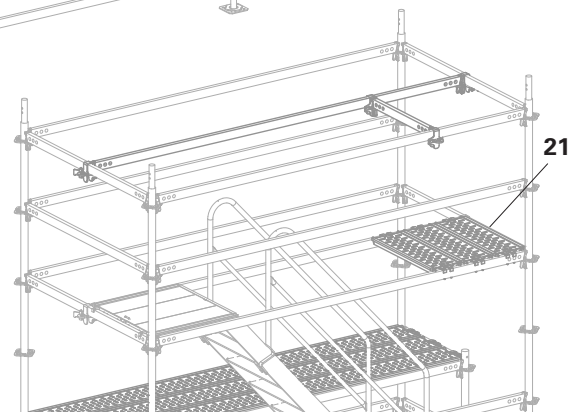

Fig. B3.08
6. Fit temporary Steel Decks UDG-2 25 x 75 (**21**). (Fig. B3.08)